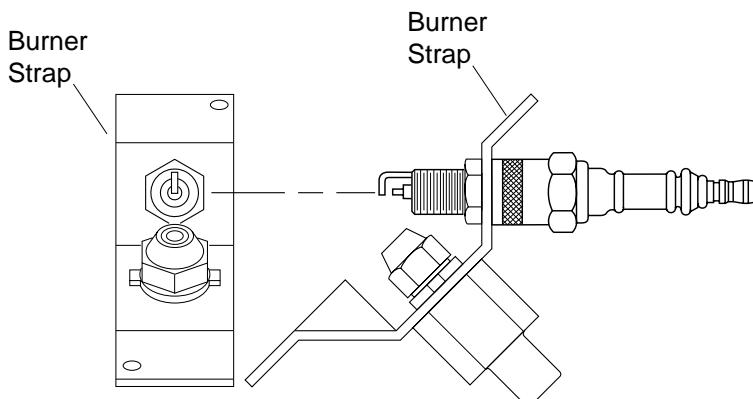

Figure 17 - Spark Plug Rotation, 8.8 kW (30,000 Btu/Hr) Model Only
10. Replace burner strap onto spark plug. Rotate burner strap to position spark plug electrodes (see Figure 17).